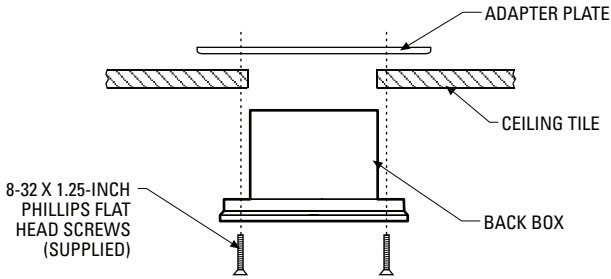

Figure 3. Ceiling Tile Installation
2. Mount the unit to the ceiling tile (refer to Figure 3):